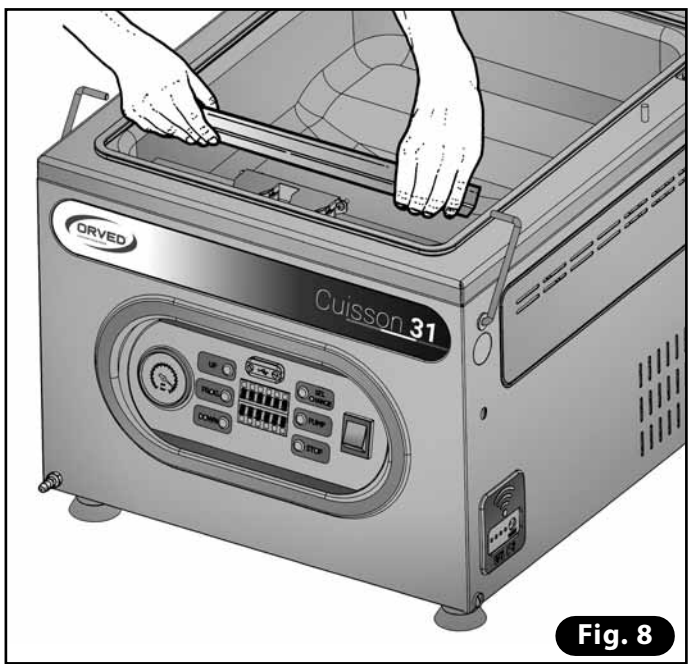

Fig. 8
- 5) Put the sealing bar back in the tank, making sure it engages correctly with the electrical contacts (**Fig. 8**).